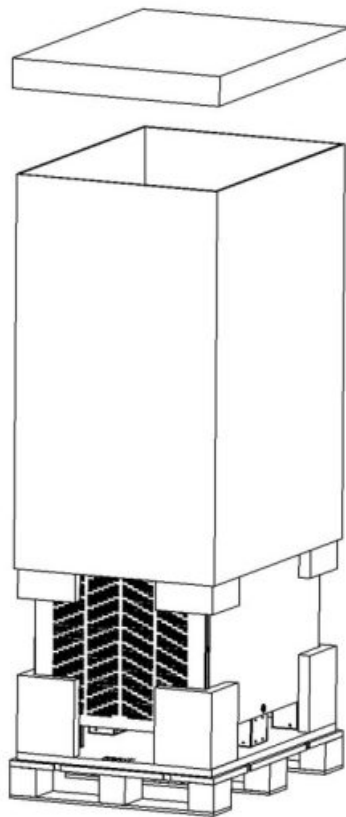

Figure 3-3
2. Remove the plastic bag and the outer carton (Figure 3-3).